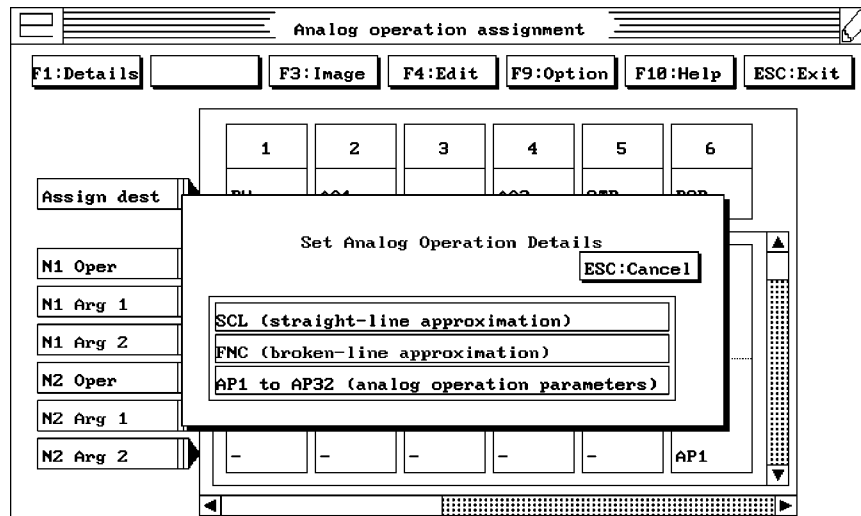

Figure 7
3. Select **F1:Details** from the **Analog operation assignment** menu. A pop-up menu appears (Figure 7).